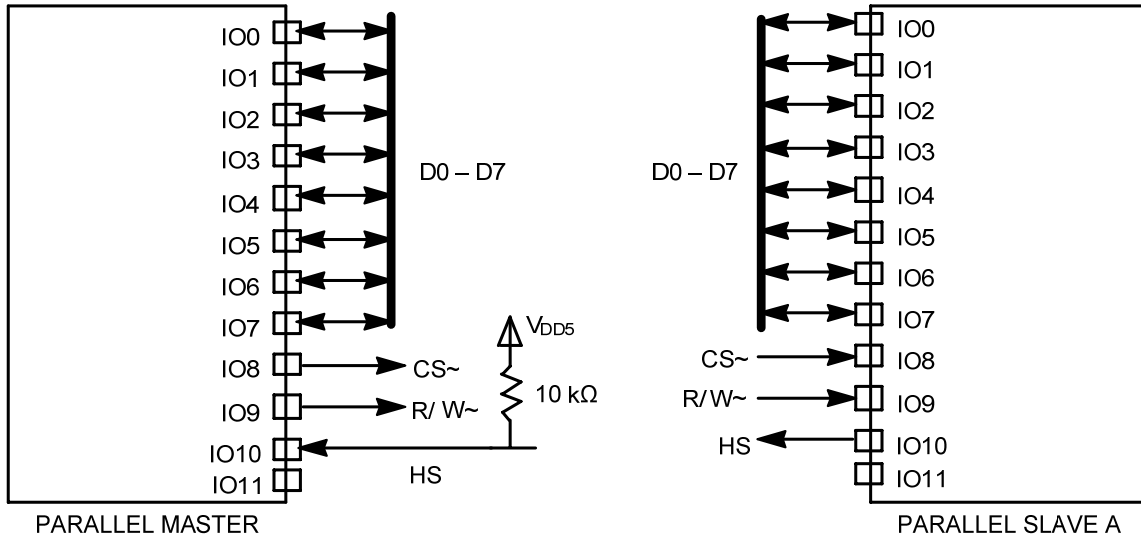

Figure 19. Master Mode and Slave A Mode
The master mode and the slave A mode are recommended when interfacing two Neuron Chips or Smart Transceivers. In a master/slave A configuration, the master drives the IO8 pin as a chip select and the IO9 pin to specify a read or write cycle, and the slave drives the IO10 pin as a handshake (HS) acknowledgment (see **Figure 19** on page 57).
This section describes a pair of example programs that transfer data in a parallel I/O master/slave A configuration. The code assumes two devices hardwired as shown in **Figure 19** on page 57. The master program writes the **test_data** to the